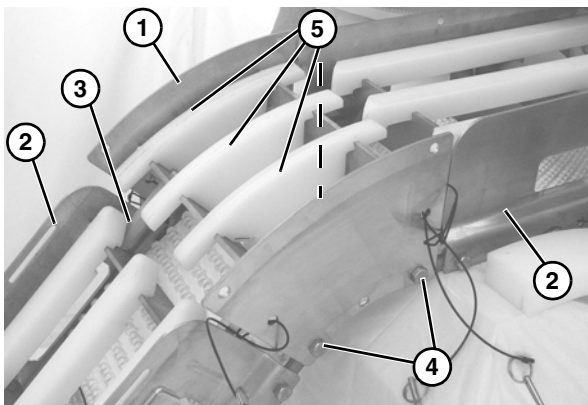

**Figure 5**
3. Connect the frame sections by bolting the hex post connectors (**Figure 5, item 1**) the sections of frame.